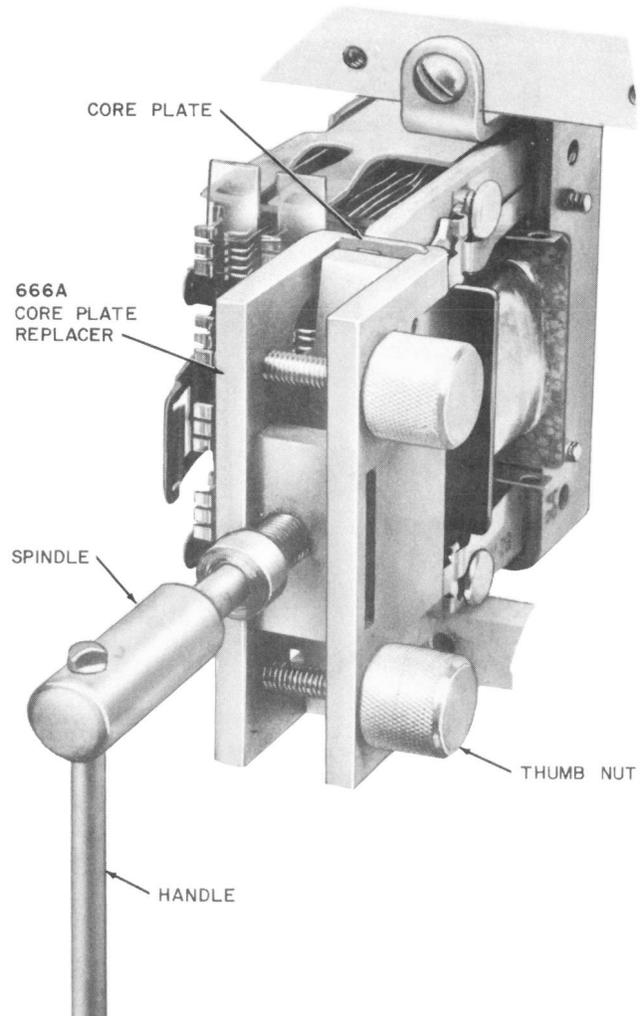

Fig. 5—286-Type Relay Removing Core Plate
3.08 Removing Core Plate: Remove the core plate as follows: Place the 666A core plate replacer on the relay so the grooves in the tool fit over the sides of the core plate with the thumb nuts at the right as shown in Fig. 5. Tighten the thumb nuts so the replacer firmly engages the core plate. Turn the spindle of the replacer
3.22 Removing Core Plate: Remove the core plate as follows: Place the 666A core plate replacer on the relay unit so the grooves in the tool fit over the sides of the core plate with the thumb nuts at the right in a position similar to that shown in Fig. 5. Tighten the thumb nuts so the replacer firmly engages the core plate. Turn the spindle of the replacer clockwise until the core plate is free of the core and remove the replacer and core plate. Do not remove the core plate from the core plate replacer.